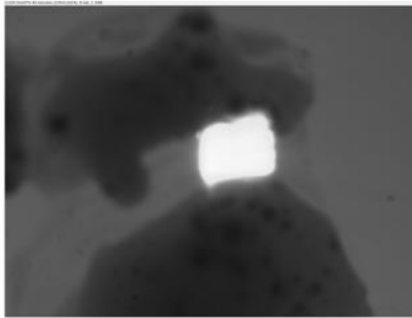

Fig. 10. The doubly reflected beam on the YAG crystal.
14. Then tilt the vertical and horizontal mirror to 4 mrad to obtain a double reflected beam as showed in Fig. 10.